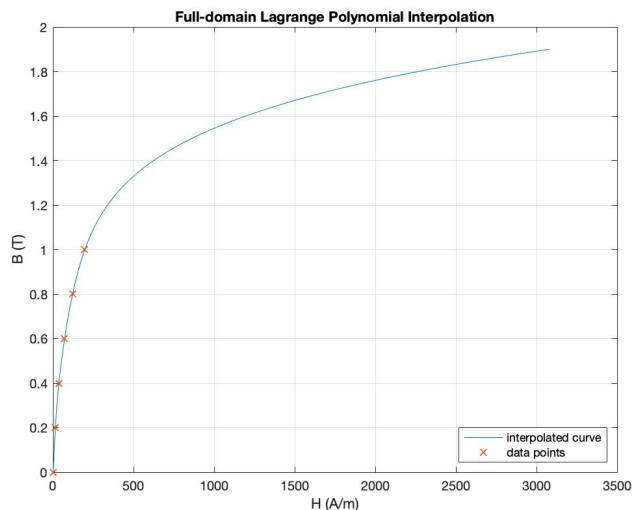

Figure 1 - Full-domain Lagrange interpolation using the first six points provided
- (a) The first six points provided in the handout were interpolated using full-domain Lagrange polynomials. The interpolation is shown in Figure 1. We see that the result is plausible; however, the curve underestimates B -values for large H -values. The code implementing this interpolation can be found in Appendix 1.1 on page 8 as *lagrange_interpolator.m*. Running this code will produce the results discussed in sections 1.a. and 1.b.